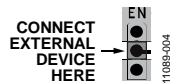

Figure 5. EN Pin Direct Connection
- Alternatively, connect a voltage between VIN and GND to the center pin of the EN test bus for independent control of the EN pin voltage (see Figure 5).